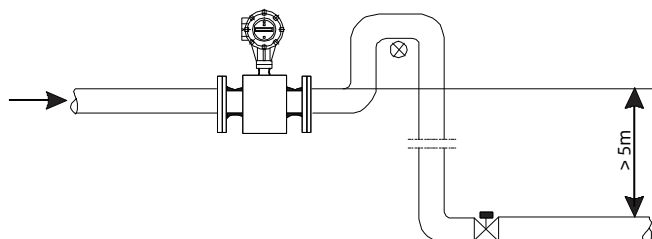

Figure 18
7. For pipeline drop more than 5 m, an air valve should be installed downstream of the electromagnetic flow meter, as shown in Figure 18